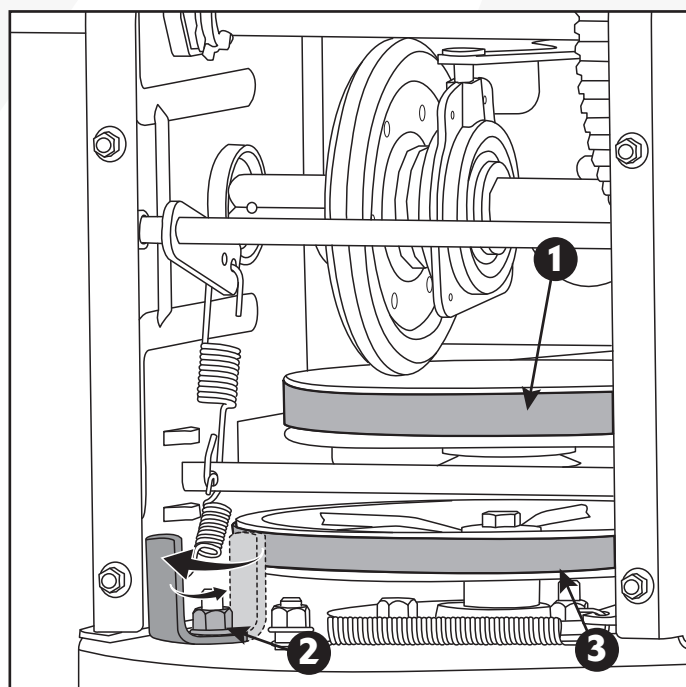

Fig. 19C
7. Loosen the stop bolt to gain access to remove the auger belt. (Fig. 19C)
8. Remove the self-propel belt. (Fig. 19C)